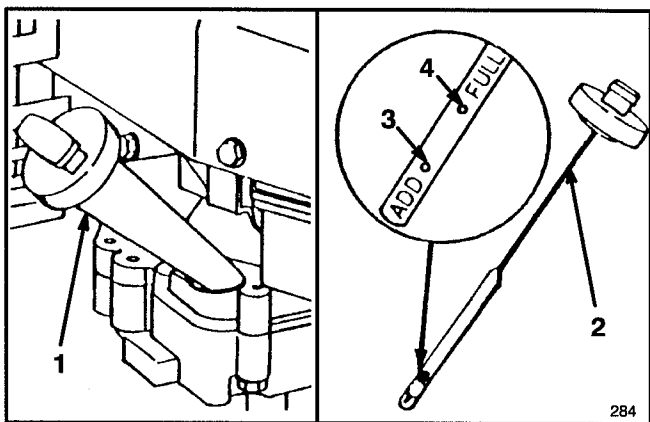

Figure 8
Fill crankcase with SAE 30 oil until oil level reaches FULL mark on dipstick as shown in Figure 8. The maximum crankcase capacity is 25 ounces (0.75 liters) of oil. Use any high quality detergent oil having the American Petroleum Institute (API) "service classification" — SF, SG or SH.
Before each use, ensure oil level is between ADD and FULL marks (Fig. 8). Add oil if level is low.
3. Wipe dipstick and insert it into filler neck. Rotate cap 1/4 turn. Then remove dipstick and check level of oil (Fig. 8). If level is low, add only enough oil to raise level to FULL mark on dipstick. **DO NOT FILL ABOVE FULL MARK BECAUSE ENGINE COULD BE DAMAGED WHEN STARTED. POUR OIL SLOWLY.**